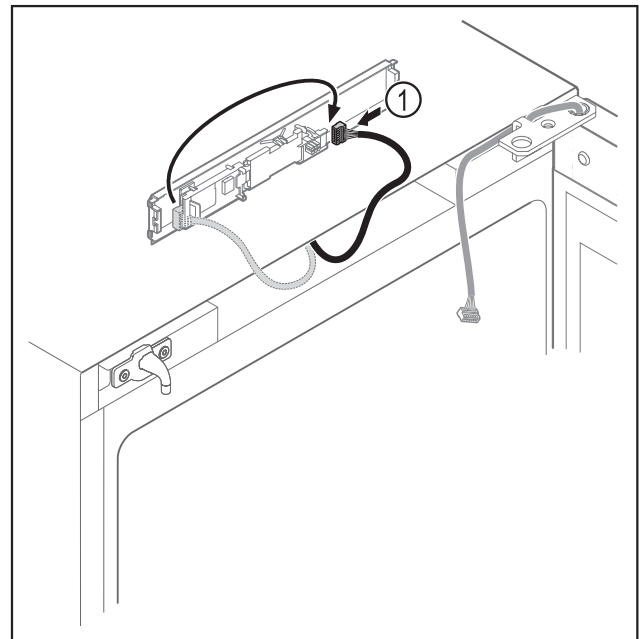

Fig. 16
- Connect the plug Fig. 16 (1) to the circuit board.